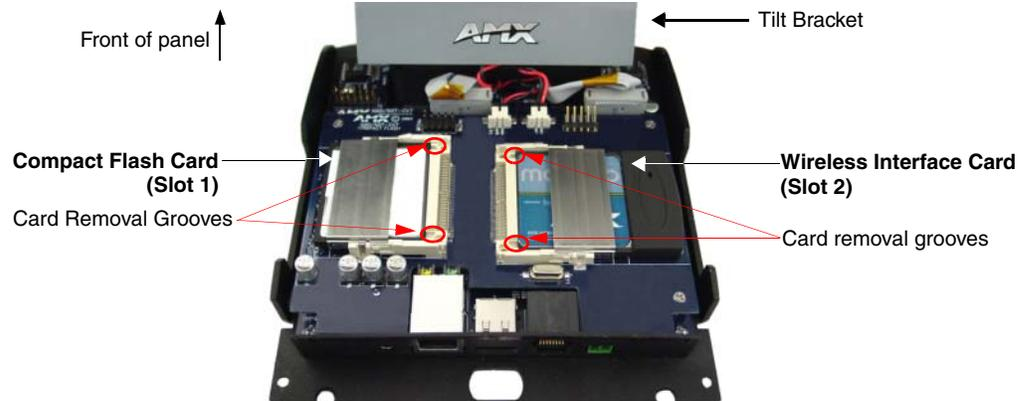

FIG. 18 Location and orientation of the card slots (both CV7 panels)
2. Locate the 64 MB Compact Flash and Wireless Interface cards on the main board (FIG. 18).